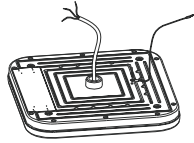

Figure 3
1. Fix one side of the accessory safety rope on the back of the fixture (Figure 3).